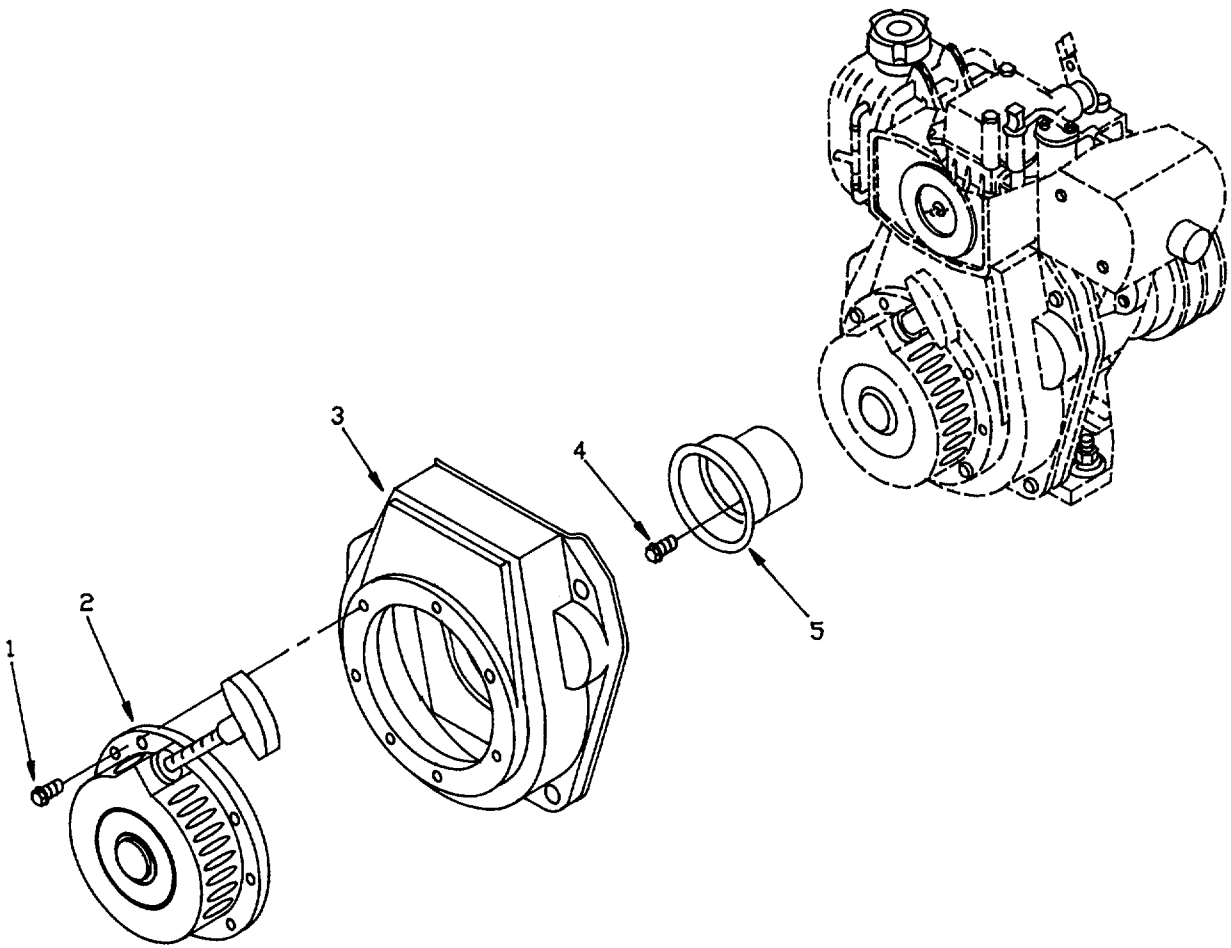

Figure 4-6. Recoil Starter.
- (1) Remove hexagon cap screws (1, Figure 4-6).
- (2) Remove recoil starter (2) from cooling fan case (3).
- (3) Remove hexagon cap screws (4) from engine start pulley (5).
- (4) Remove engine start pulley (5).